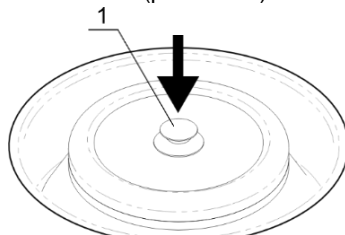

Figure 2. Installing the rotor lid
- Place the rotor lid on the rotor pressing the lid holder down tightly (fig. 2/1).